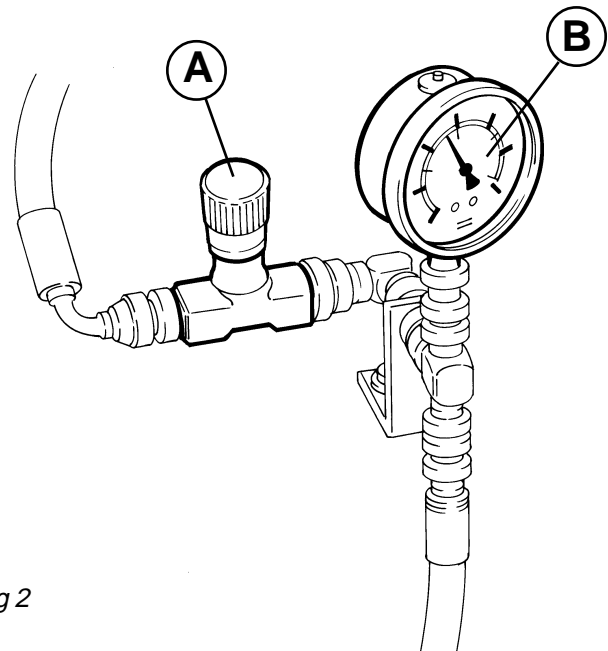

Fig 2
2. Open the lock valve, *Fig 2.A*.
3. Pressurise the accumulator/hydraulic ram system by operating the tractor hydraulic system to obtain a working pressure of 170 bar (2500 psi), *Fig 2.B*.